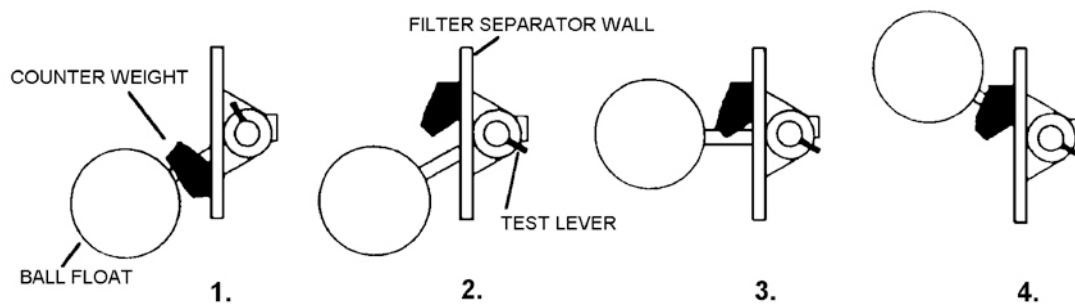

Figure 2-16. CFF21 flanged float control.
The newest pilot control now in service is called the *CFF21 flange float control* (fig. 2-16). This new pilot control operates in the same way the old one does, with one major difference—the CFF21 has a float that will float in fuel. Instead of the ball float that is weighted, a ballast weight rests on the float arm. This new feature gives you the capability of testing the pilot control, FDV, and WDV. A lever attached to the ballast is located on the outside portion of the pilot control. When you push down on this lever while fuel is circulating through the F/S, the float will rise because it is able to float in fuel. Now look at figure 2-16. In normal operating position (1), the float ball ballast is fixed to the float for automatic water level control. By removing the ballast from the float (2), you allow the float ball to float in fuel (3 & 4). The sequential operation of the WDV and FDV verify the integrity of the float ball and proper functioning of the pilot control mechanism. This unique approach is the *only* positive means of checking the control function totally while the F/S is in service.